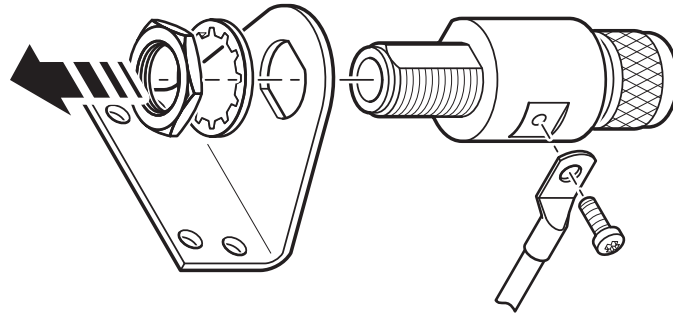

Figure 10.1: Assembly of the MBG S-PRO Surge Protector
2. Fit the MBG-S-PRO surge protector to the mounting bracket as shown in Fig. 10.1. The MBG S-PRO has no dedicated input or output polarity and therefore has no preferred installation orientation.